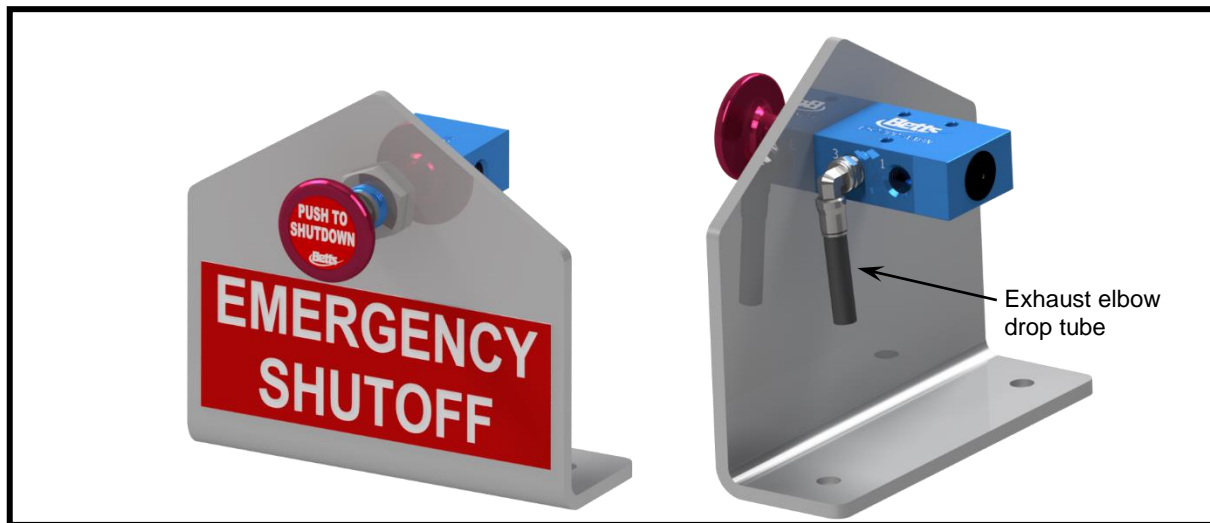

Fig. 1: Secured with Panel Nut, and drop tube to route exhaust
- 4.3 The valve can be mounted via the through holes in the valve body or through a Ø.81" hole in a panel and secured with the 3/4" hex nut (included). See figures 1 and 2.